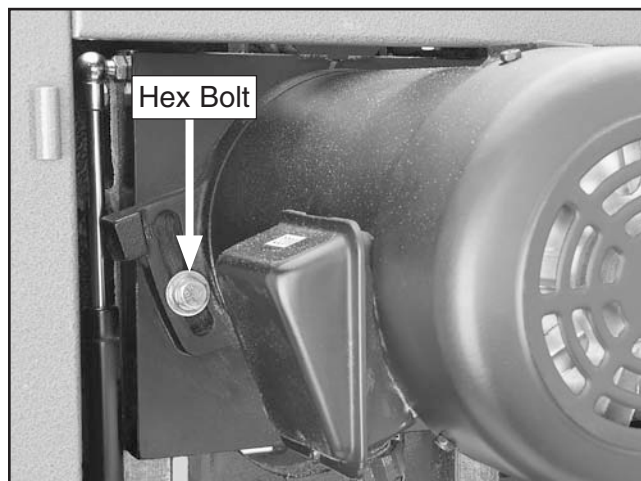

Figure 130. Belt tension adjustment bolt (one of two shown).
3. Loosen the two hex bolts on the motor (see **Figure 130**), and pivot the motor up and down to make sure that it is movable.
9. Loosen the motor adjustment bolt (see **Figure 130** on **Page 71**).